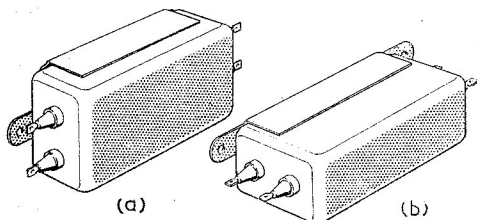

Fig. 1. (a) Suppressor, Type 335/44C/1
3. The case is required to be at earth potential. Each capacitor is provided with a mounting bracket which is soldered to its case, and should be attached to the frame of the equipment to be suppressed or the adjacent airframe. The various methods in which the units may be mounted are shown in fig. 1 to 6, and are indicated by a suffix number to the suppressor type.